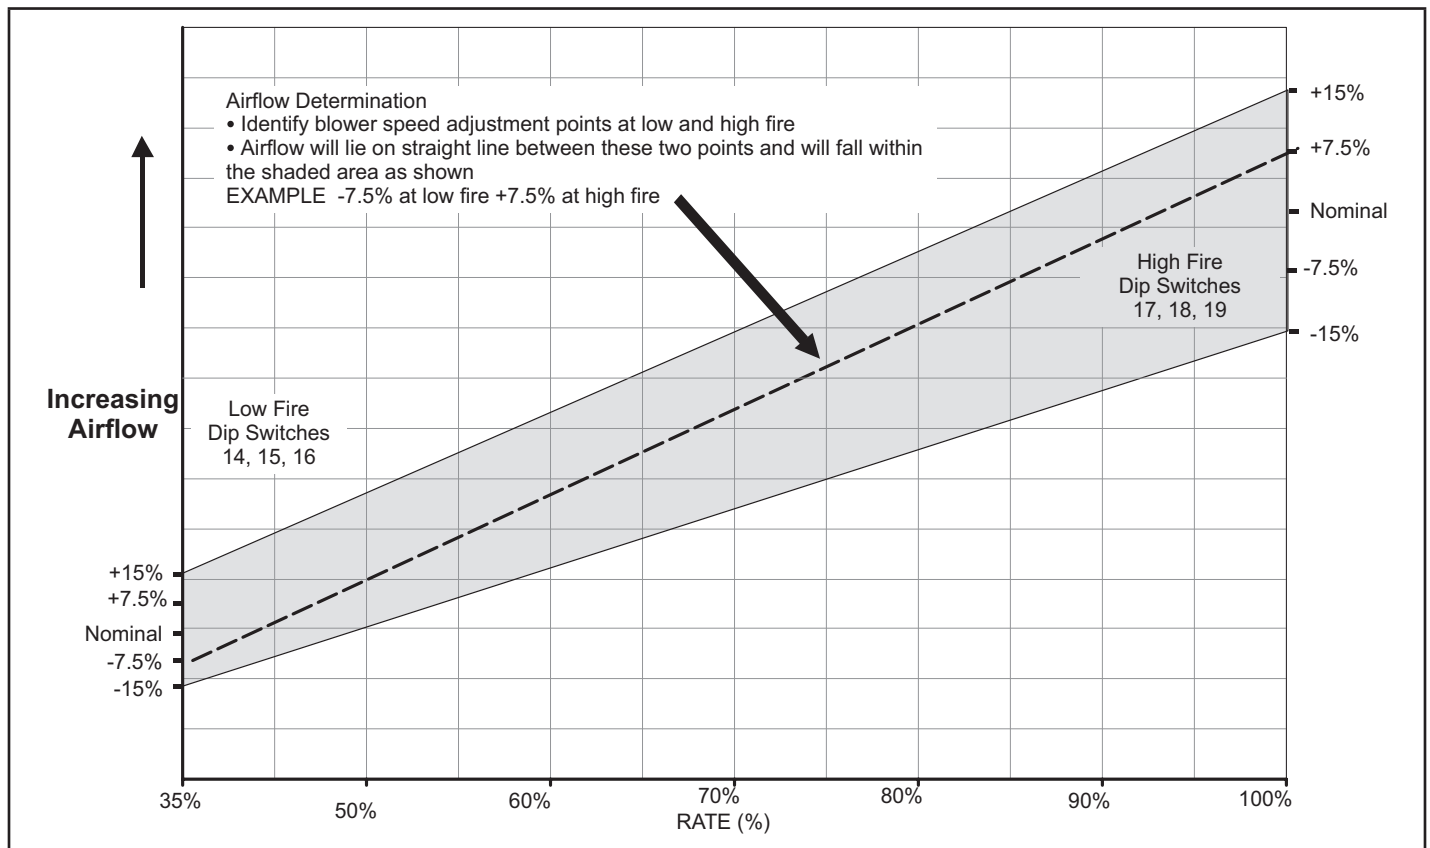

FIGURE 6
-- Switches 14 through 19 are used to select heating mode blower motor speeds. These switches are factory set at the OFF position which provides 100 % of normal speed during HIGH HEAT demand, 70% of normal speed during MIDRANGE HEAT demand and 40% of normal speed during LOW HEAT demand. Switches 14, 15 and 16 are used to adjust the LOW FIRE blower motor speed. Switches 17, 18 and 19 are used to adjust the HIGH FIRE blower motor speed. FIGURE 6 and TABLE 11 TABLE 12 provides the heating mode blower speeds that will result from different switch settings. FIGURE 6 indicates the effect the DIP switch settings have upon the heating airflow at various furnace firing rates. Refer to blower tables at the front of this manual for corresponding cfm values.